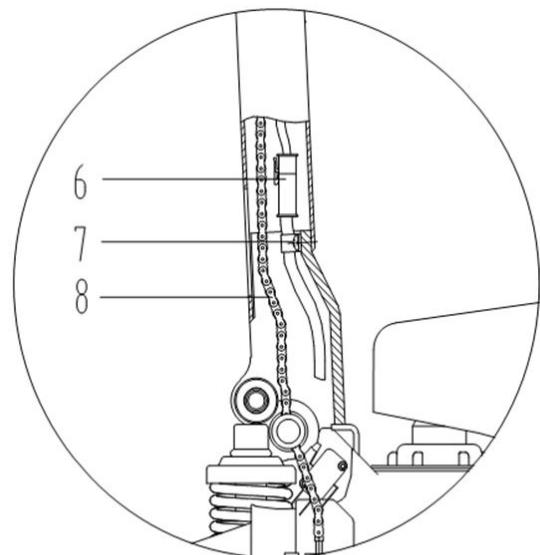

Figure 4
4. Refer to Figure 4: Pull the handle into a horizontal position and remove the locking pin (part #9). Save this pin for use when performing maintenance or repairs. Connect the wires of the handle assembly with the wire connectors (part #6) in the pump body.